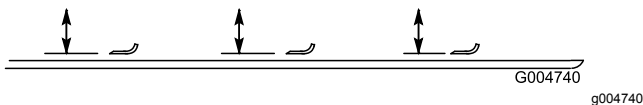

Figure 109
2. Rotate the blade until the ends face forward and backward and measure from the inside of the mower deck to the cutting edge at the front of the blade (Figure 109).